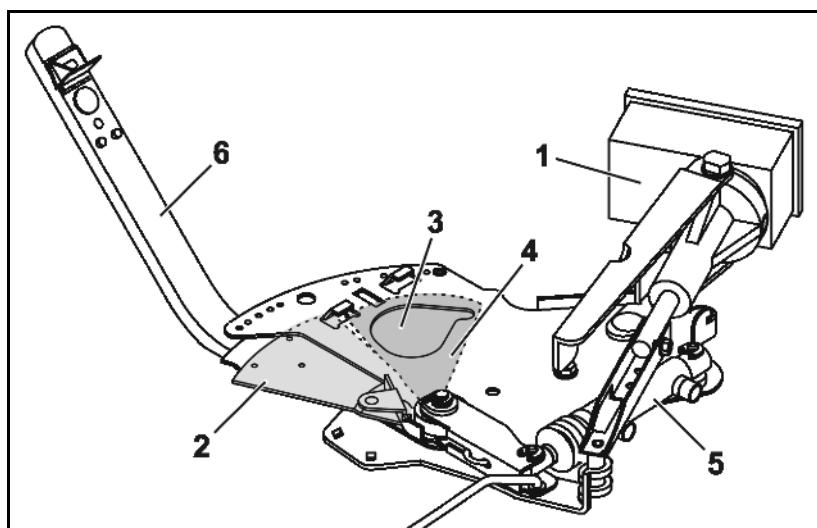

Fig. 22
- electronically with the in-cab terminal / on-board computer. In this case, dosing sliders (Fig. 22/2) operated by setting motors (Fig. 22/1) release a range of different diameters at the outlet openings (Fig. 22/3).
- manually via the setting lever (Fig. 22/6) by adjusting a range of different diameters at the outlet openings (Fig. 22/4). The respectively required slider position is determined either in accordance with the **setting chart** or with the **calculating disc rule**.
The slide gates (Fig. 22/4) serve to open and close the outlet openings and can be separately actuated hydraulically, depending on equipment (Fig. 22/5) via